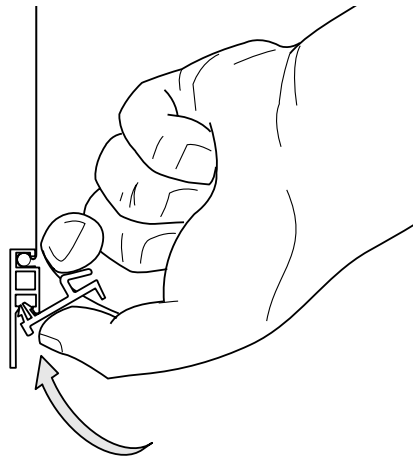

Figure 6-2. Insert clip into screen frame
1. Install two clips on each side of the screen, except on sides of the screen greater than 48" (1200mm), use three clips. Snap the screen clips into the screen bar by gripping the clip as shown in figure 6-2. By turning the clip 30 degrees and engaging one of the barbs as shown, then pressing and rotating the clip at the same time, the barbs will snap into the grooves of the screen bar. Force may be required.